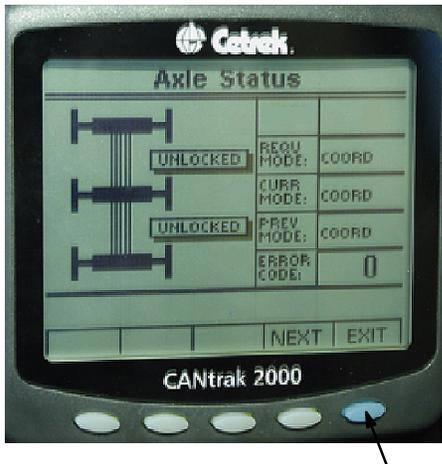

Figure 15. Axle Status Screen Indicating The Pushbutton Used To Access Screen Adjustments
2.1.16 Screen Adjustments (see Figure 15)